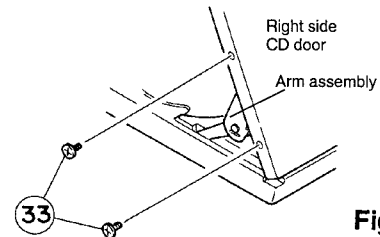

Fig. 2
■ CD Door 30 (Refer to Fig. 2, 3)